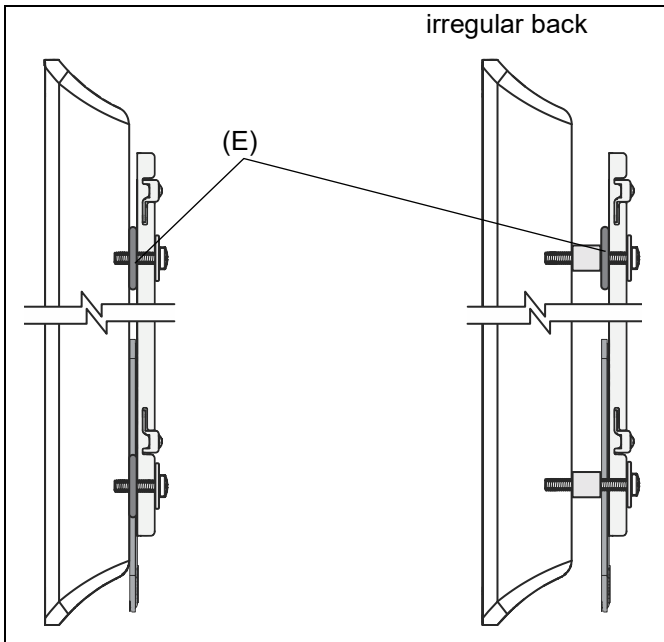

Figure 7
- For displays with a rounded/irregular/obstructed back, longer screws (R, S, T, U or V) and TV spacers (Q) must be used. (See Figure 7)
**IMPORTANT ! :** To offset the shift in height of your mounting system due to the soundbar brackets (A), mount spacers (E) must be used in the top hole locations. (See Figure 7)